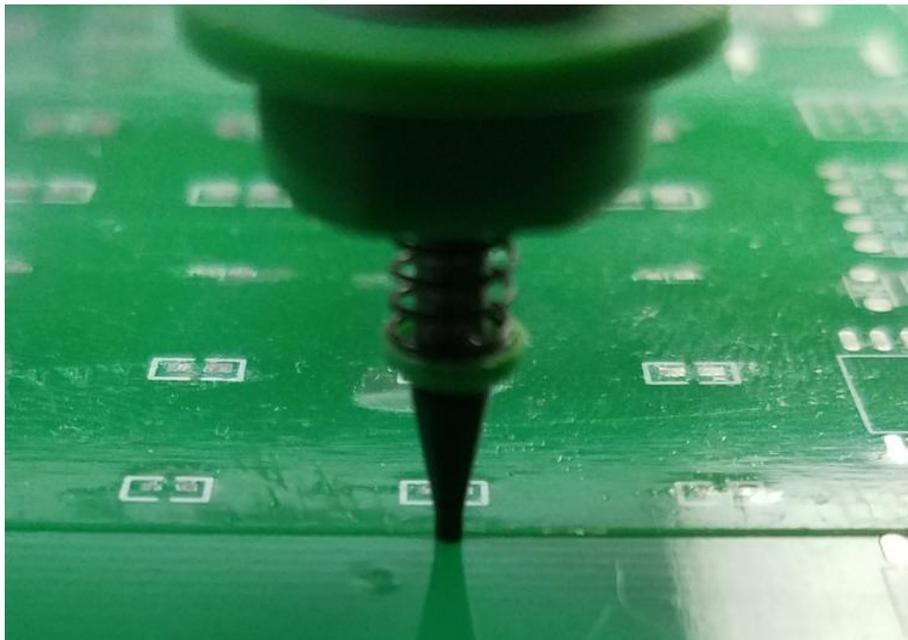

Figure 5-6-5
- ⑤ Move 1# suction nozzle on the top of PCB board, click  button, make 1# suction nozzle just touch the PCB board. Shown as Figure 5-6-5: